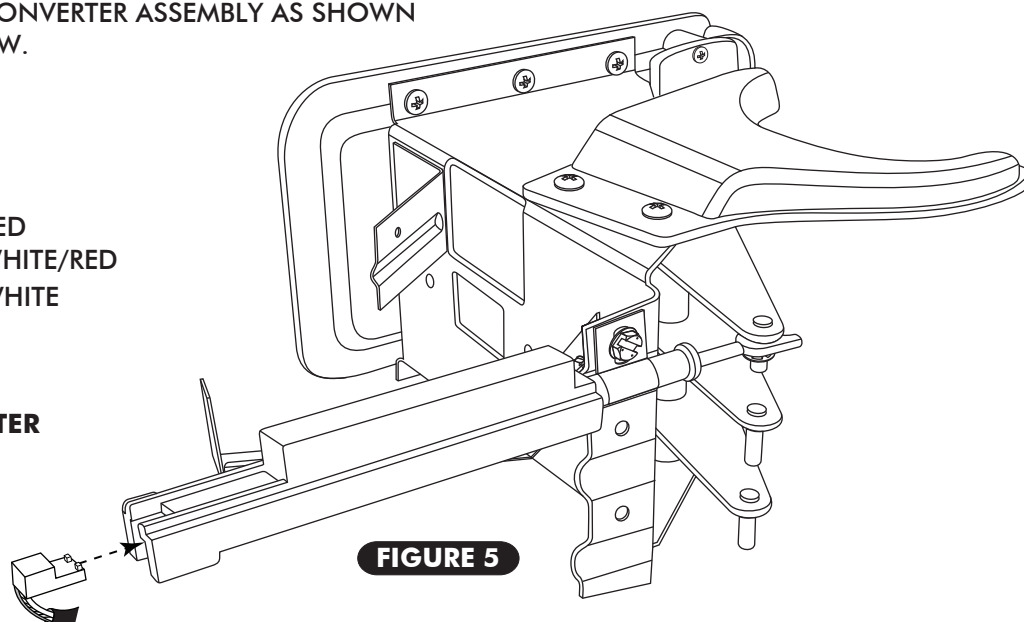

FIGURE 5
- LOCATE THE CONTROL PANEL WIRE HARNESS AND PLUG THE CORRESPONDING CONNECTOR INTO THE CORRECT CABLE CONVERTER ASSEMBLY AS SHOWN IN FIGURE 5, BELOW.